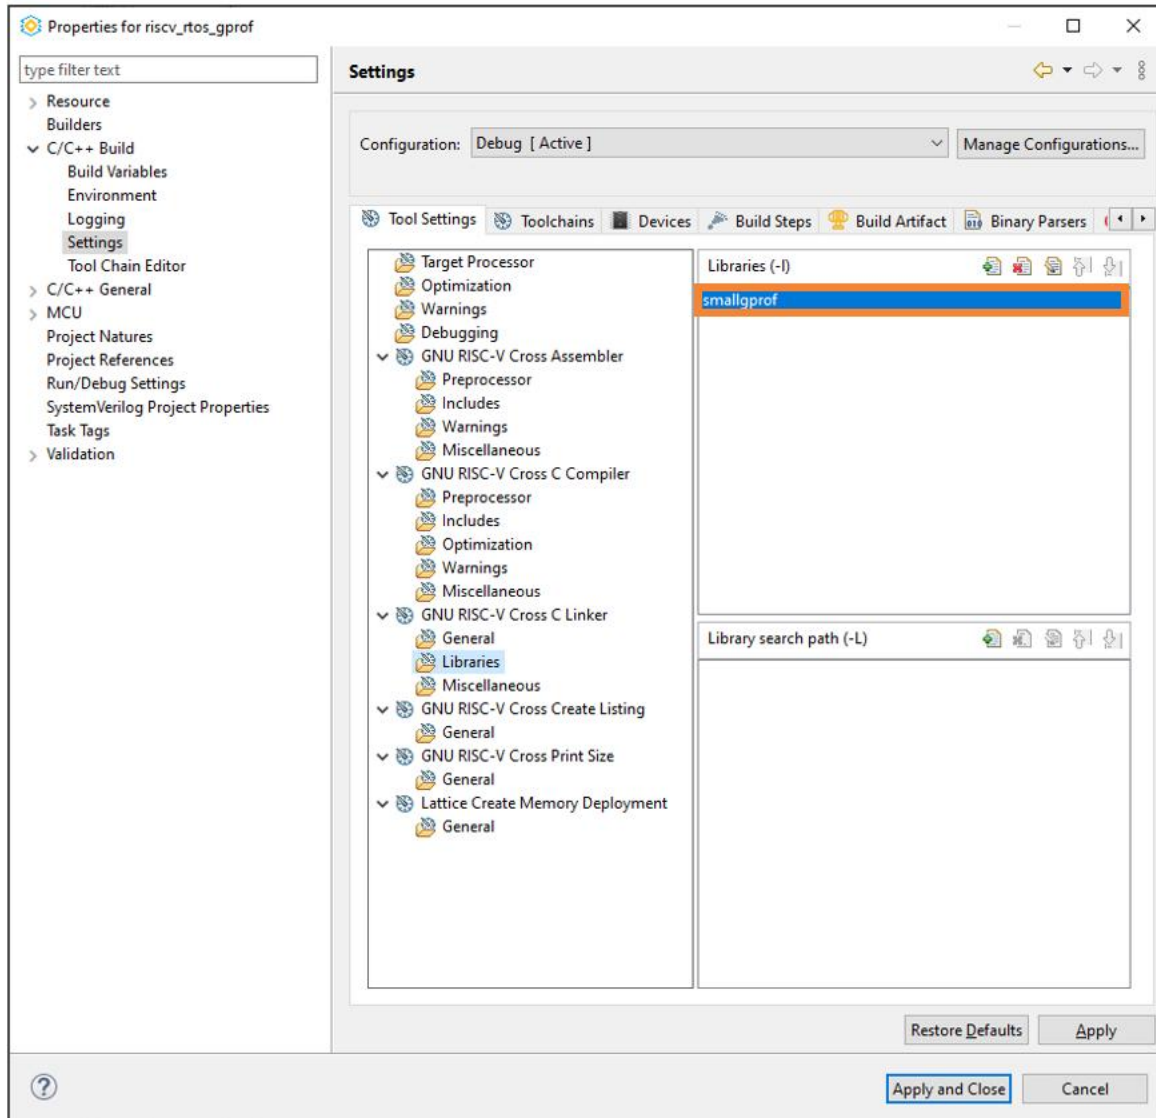

Figure 5.35. smallgprof Link Library
5. Select **GNU RISC-V Cross C Linker > Libraries**. Add the library, `smallgprof` (Figure 5.35).